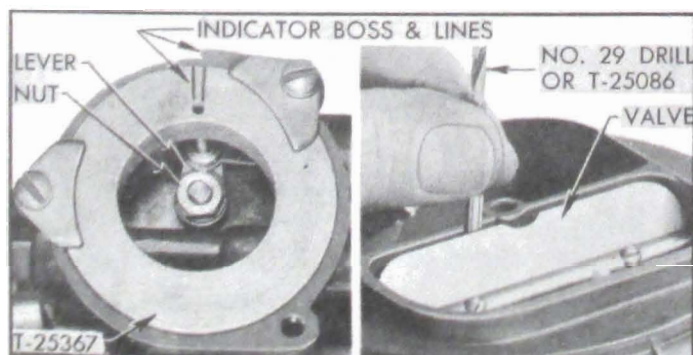

Figure 3-94—Choke Valve and Vacuum Piston Adjustment
22. Install Piston Setting Gauge T-25367 in choke housing so that the small hole fits over pin on the vacuum piston lever, and the two indicator lines on face of gauge are centered on the end of indicator boss on housing. Install two thermostat cover washers to hold gauge at this setting. See figure 3-94.
23. Hold choke valve tight against the small end of Gauge T-25086 (or a No. 29 drill) placed between upper edge of valve and wall of air horn (fig. 3-94), then lightly tighten lock nut.